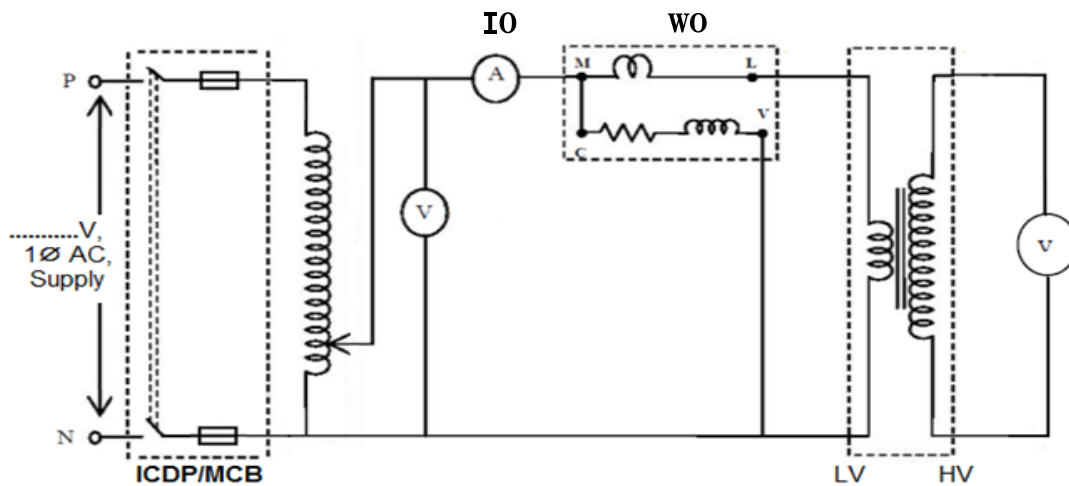

Fig.1: Open Circuit (OC) Test
1. Make the connections as per the circuit diagram shown in Fig.1